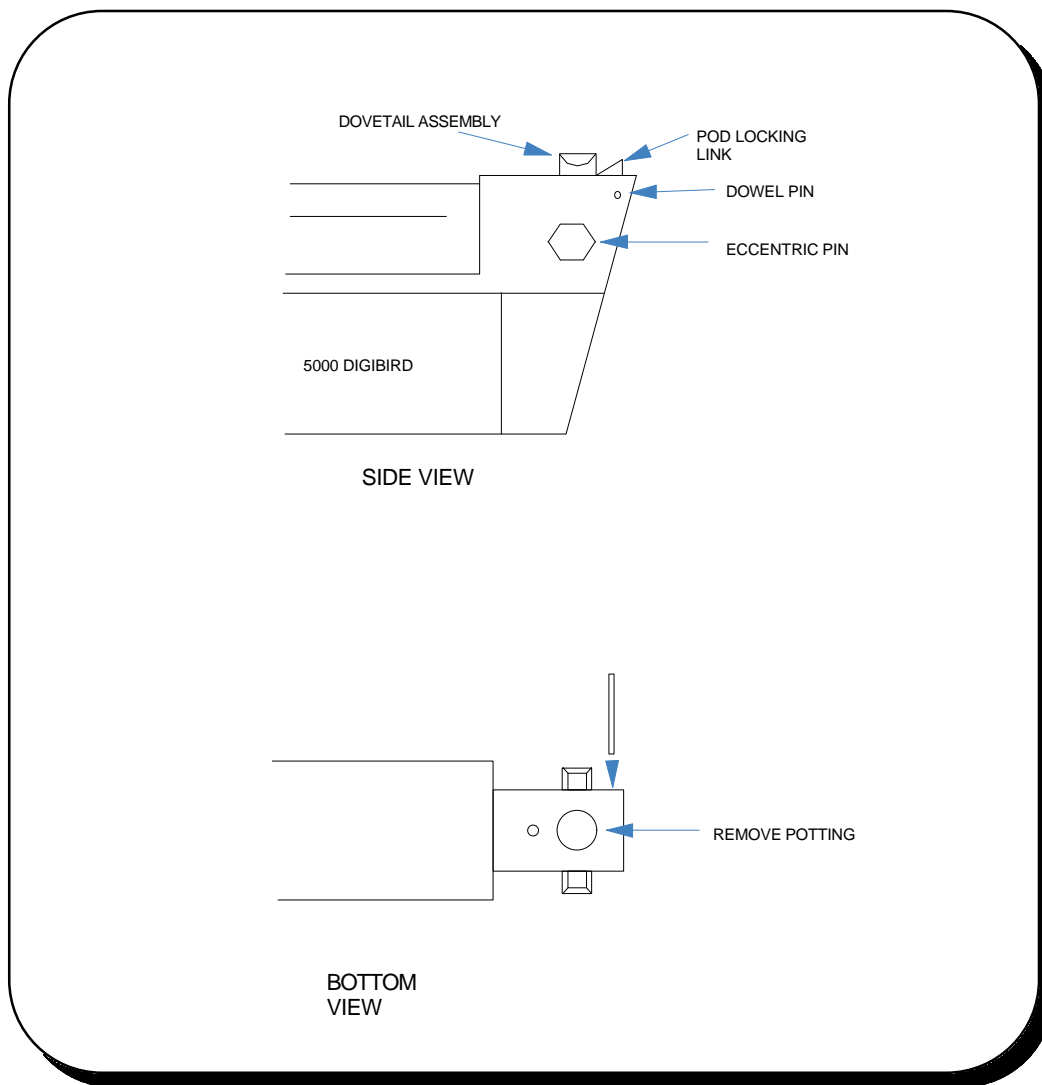

Figure 3.5.5a. Front 5000 latch (rectangular link).
2. Invert 5000 and remove gray potting material (if applicable). See Figure 3.5.5a.